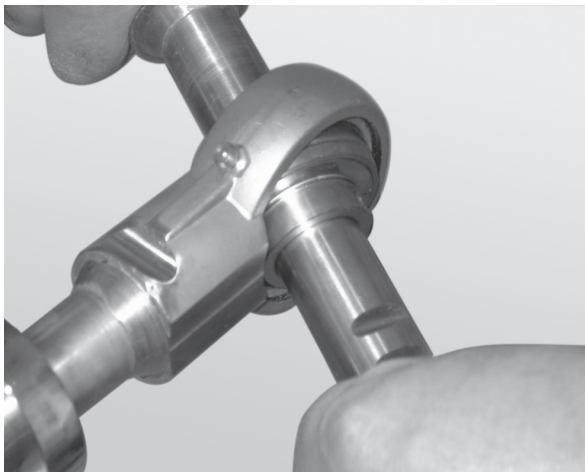

Figure 80
2. Insert the rod end of a second bearing shaft through the bearing (**Figure 80**).